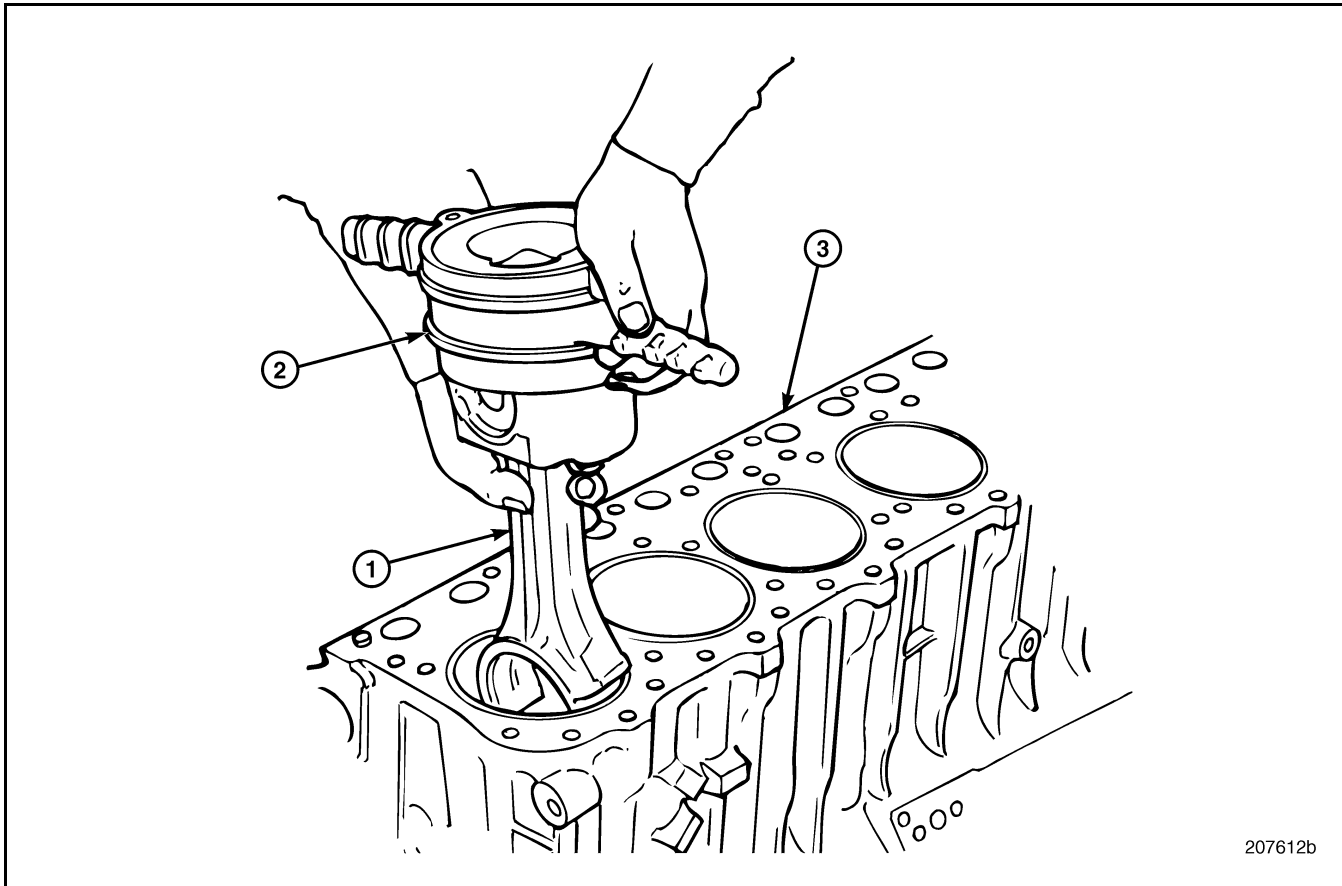

Figure 241 — Piston and Connecting Rod Installation
9. With the ring compressor (2) in place, position the piston and rod assembly (1) into the No. 1 cylinder as shown in Figure 241 until the compressor contacts the top of the sleeve. The arrow and word FRONT on both the piston crown and the connecting rod must be facing the front of the engine.